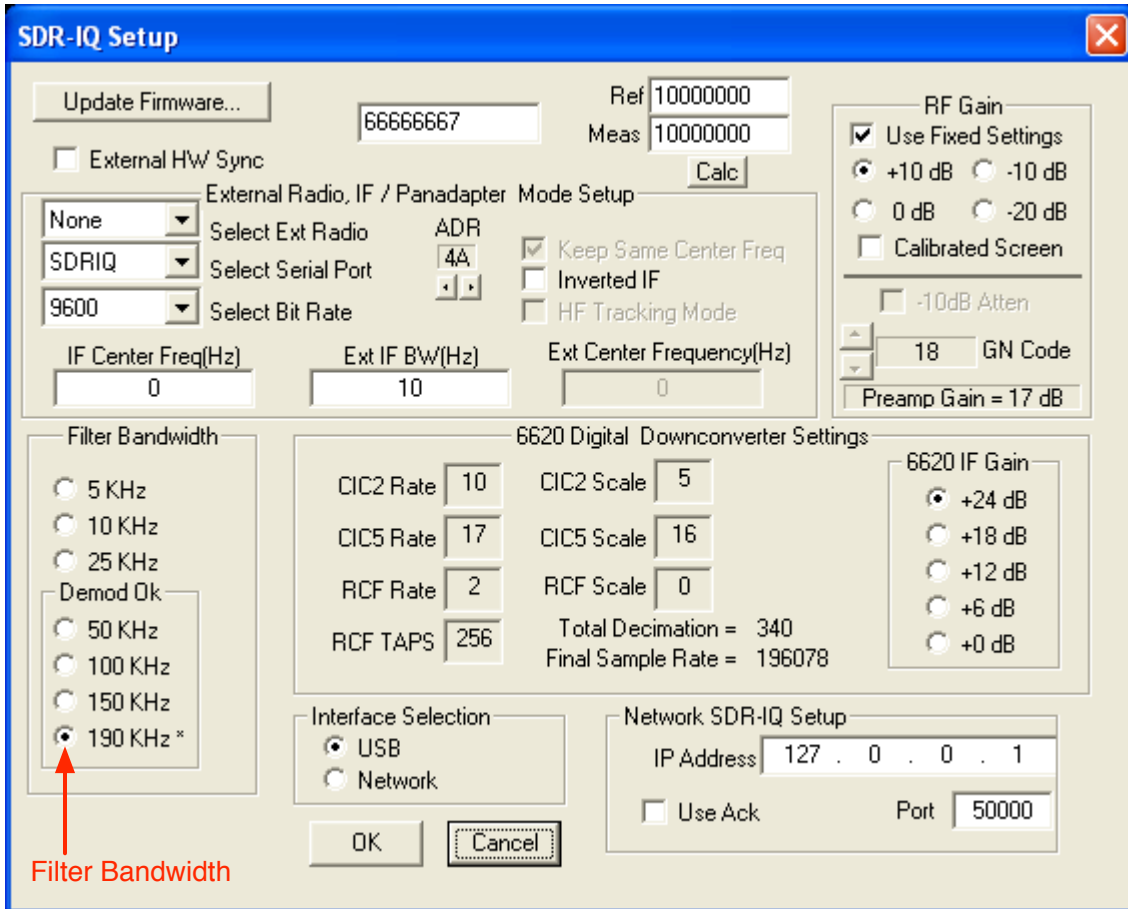

Fig 12: SDR-IQ Setup
- 3.5. Select the “SDR-IQ setup” menu shown by **arrow 3**. The window as shown in Fig 12 on the next page will pop up. Make sure your settings match the same as shown in Fig 12. Most of the settings are default and you may not need to change anything. The most important thing is to make sure that the filter bandwidth is set to 190 KHz. This is the maximum bandwidth that can be used with SDR-IQ. A bandwidth of 190 KHz may not work with computers with slow processor/slow graphics card. If you have problems with this setting or if the red indicator light turns on, on the SDR-IQ scanner then you should change your bandwidth to the next smaller value of 150 KHz.